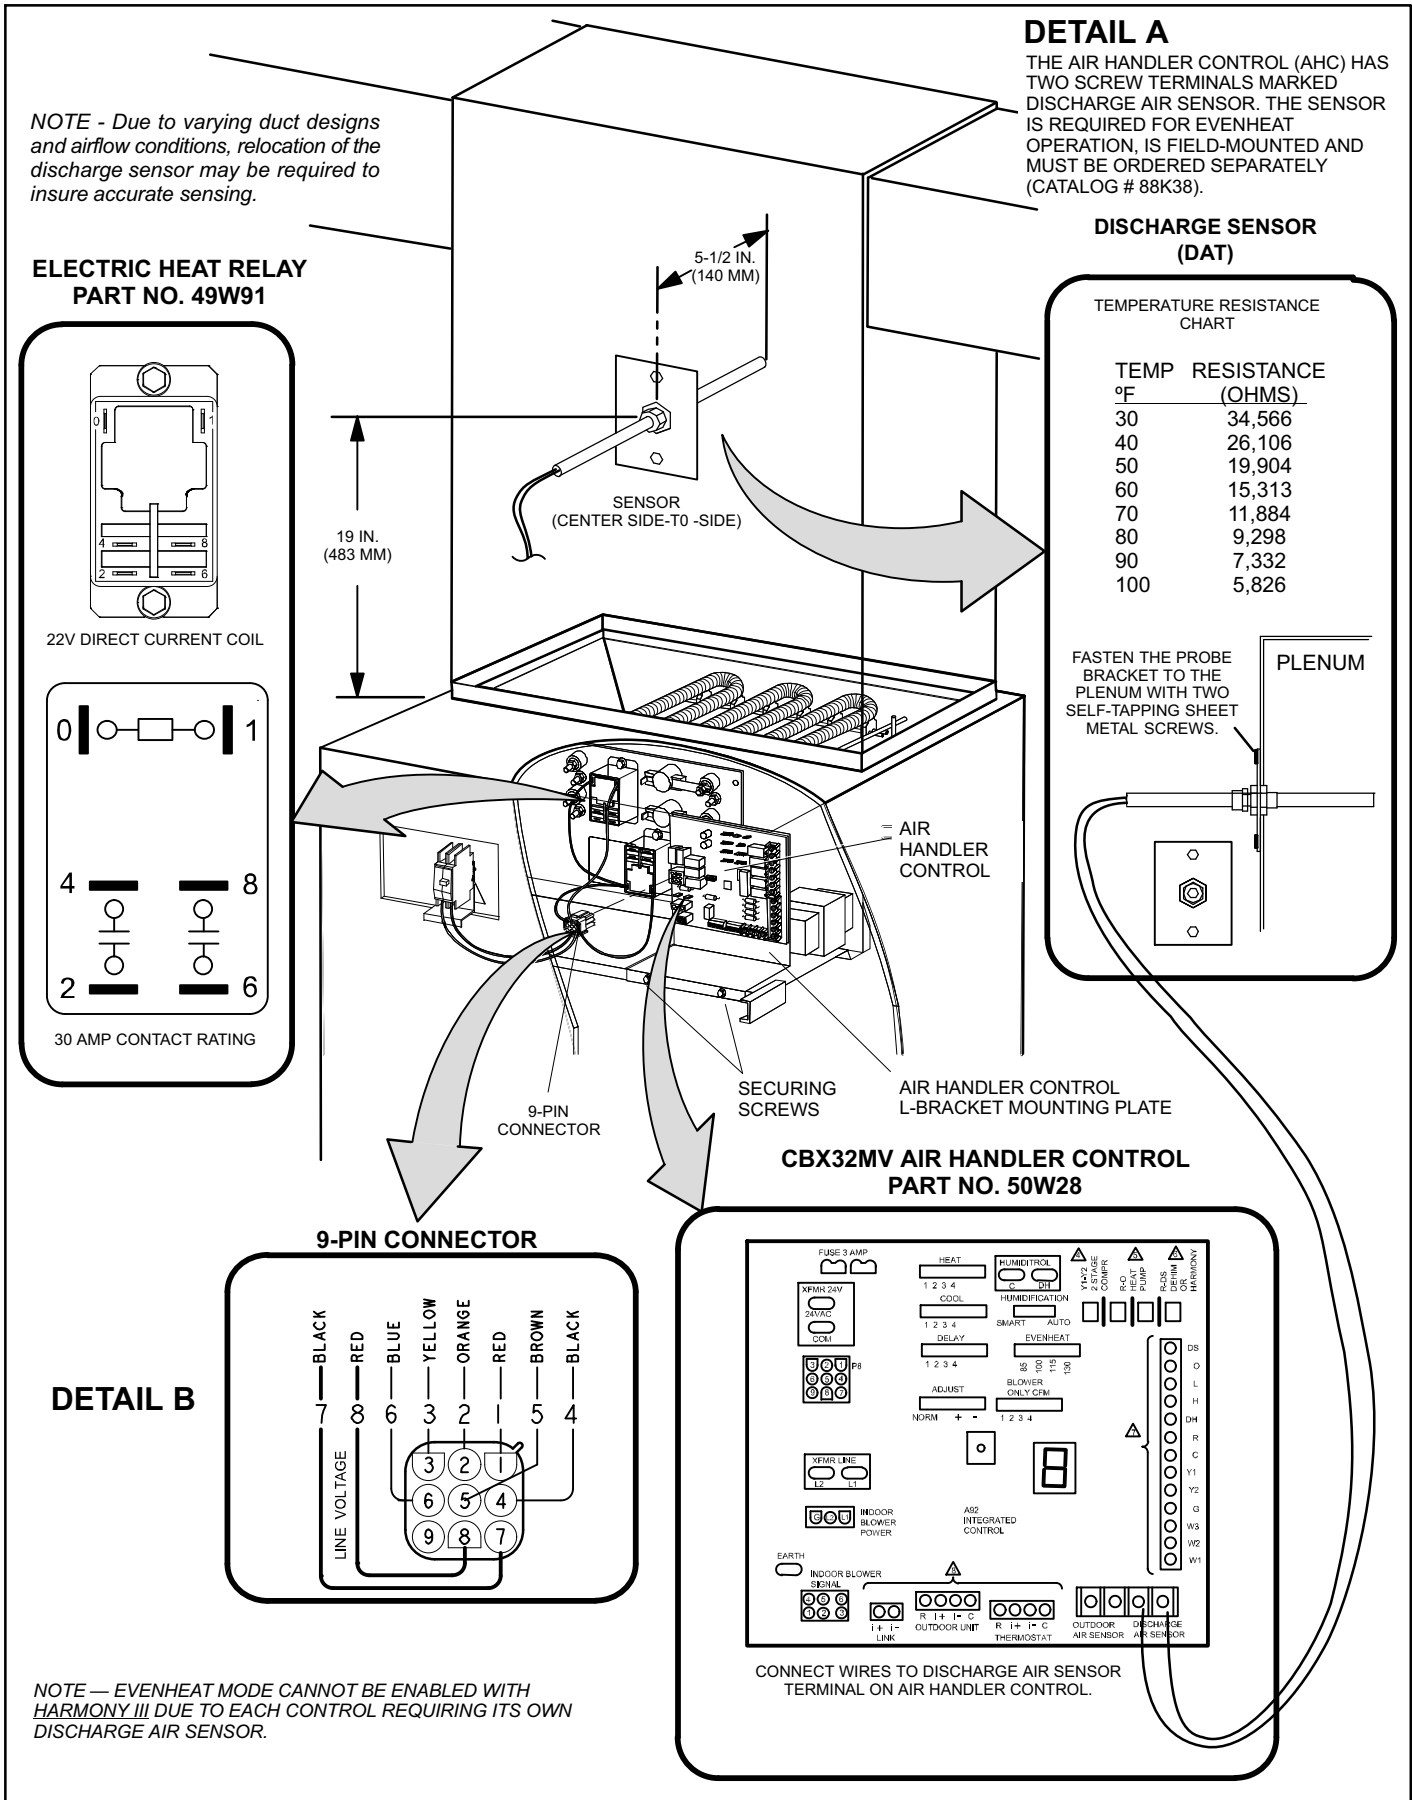

Figure 10. Component Connections
The discharge air sensor should be mounted downstream of the electric heat elements as illustrated in Figure 10, Detail A. It must be placed in a location with unobstructed airflow, where other accessories (such as humidifiers, UV lights, etc.) will not interfere with its accuracy.
*NOTE — See Figure 10, Detail B for wire colors.*